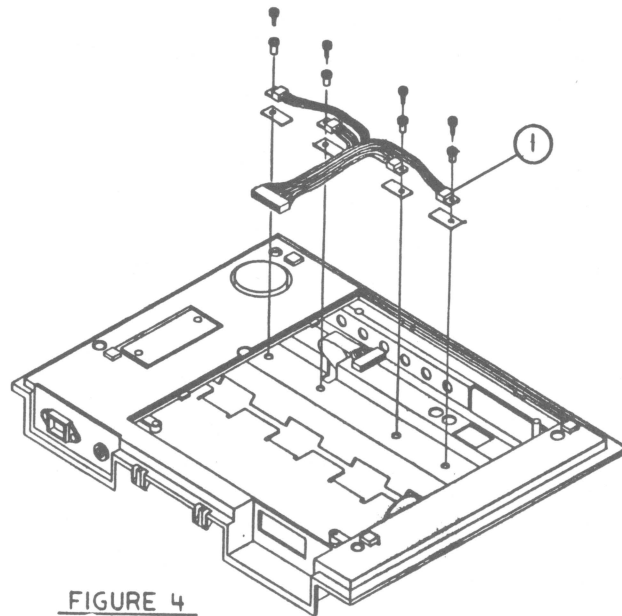

FIGURE 4
**DOT MATRIX PRINTER (Figure 4)**